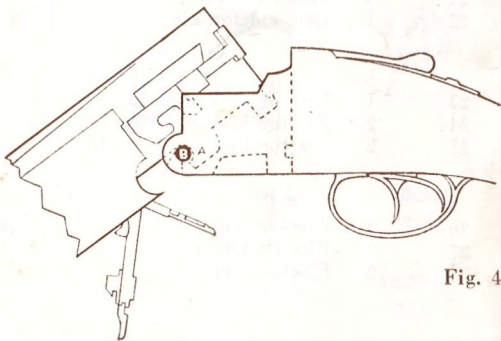

Fig. 4
- 1° Place the barrels in the action (fig. 4) taking care that the hinge pin (B) correctly fits into the barrel hook (A).